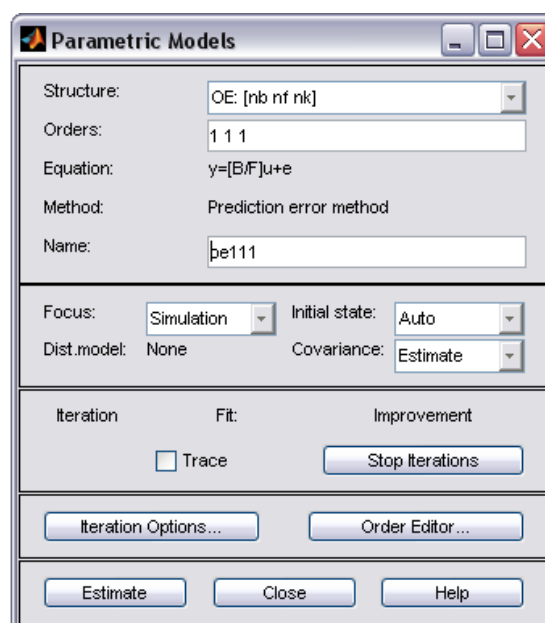

Figure 17 Parametric model dialogue
- Now select *Estimate* → then *Parametric Model*. Select the *OE structure* and enter the order specified in the proper exercise of the Control Experiments manual (Figure 17). For the PMS velocity model it is the OE 1 1 1. Now select *Estimate*.